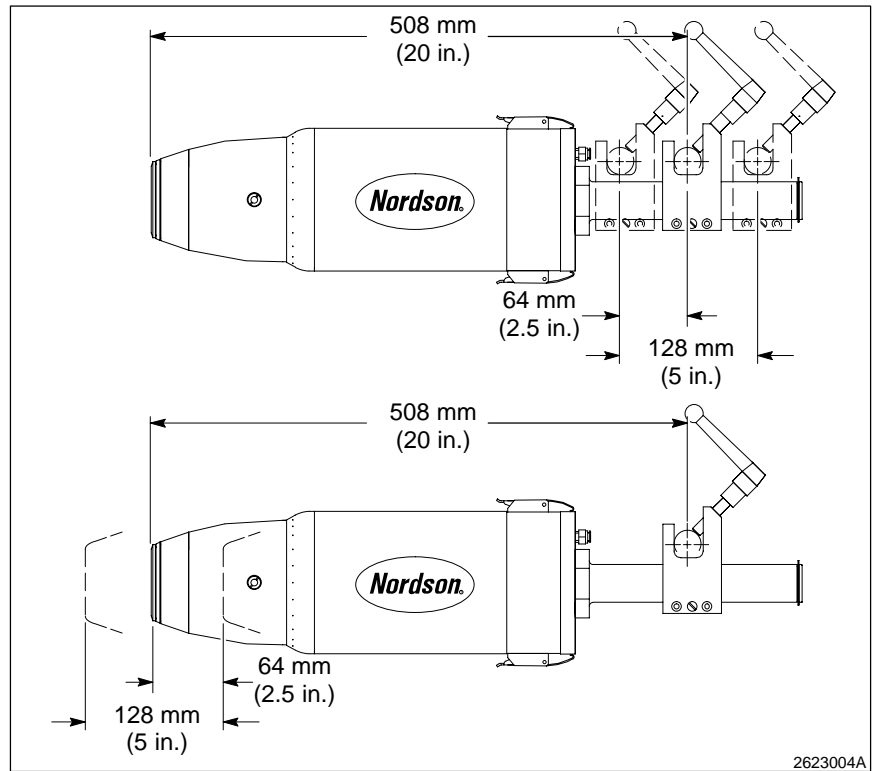

Fig. 3-2 Adjustment range
**NOTE:** See Figure 3-2. Make sure that the bar is properly supported and of adequate strength to support the powder bell. The bar should be positioned to allow proper distance between the powder bell and the object to be coated (usually 20–30 cm (8–12 in.)). The assembly can be adjusted 57 mm (2.25 in.) fore and aft, independent of the mounting bar.